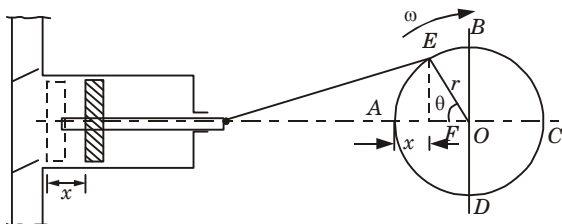

Fig. 5.30.1. Velocity and acceleration of piston.
2. Let x is the distance travelled by the piston as shown in Fig. 5.30.1.